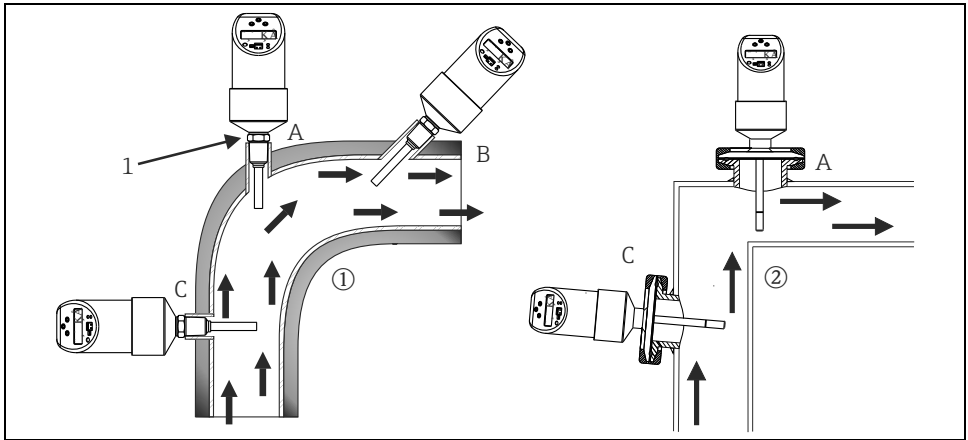

Fig. 5: Possible installation options for temperature monitoring in pipes
Do not thread into process connection by turning the housing. Always use a wrench (see table, → 8) on the process connection flats (→ Fig. 5, Pos. 1) to tighten the sensor into the process connection.
- Installation at angle pieces, against the direction of flow (→ Fig. 5, Item A).
- Installation in smaller pipes, inclined against the direction of flow (→ Fig. 5, Item B).
- Installation vertical to the direction of flow (→ Fig. 5, Item C). Installation of TTR35 by min. 3° inclination, because of self draining.